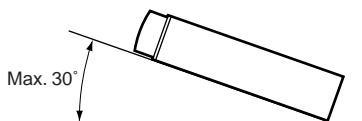

Figure 3
3. Install the unit within 30° of the horizontal plane. (Figure 3)